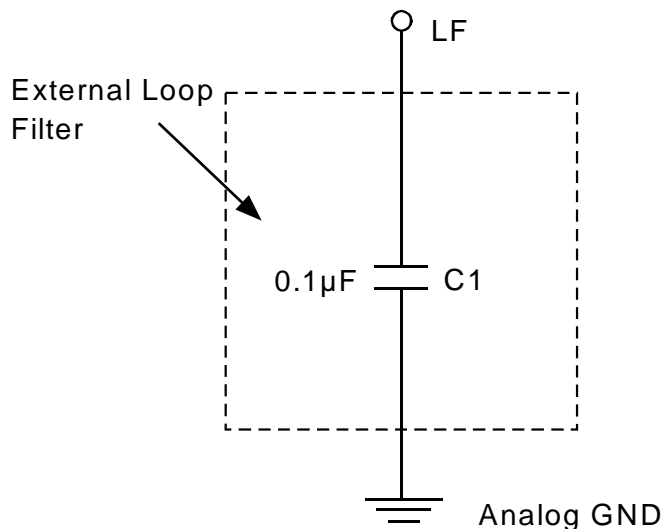

Figure 2. Loop Filter Connection
- Note 8 in "General AC Specification Notes" and Figure 2 describes this specification and its actual limits depending on the feedback connection.
- With V_{CC} fully powered-on and an output properly connected to the FEEDBACK pin. t_{LOCK} Max. is with C₁ = 0.1μF, t_{LOCK} Min. is with C₁ = 0.01μF (where C₁ is loop filter capacitor shown in Figure 2).
9. The t_{PD} spec describes how the phase offset between the SYNC input and the output connected to the FEEDBACK input varies with process, temperature, and voltage. The phase measurements were made at 1.5V. The Q/2 output was terminated at the FEEDBACK input with 100Ω to V_{CC} and 100Ω to ground. t_{PD} measurements were made with the loop filter connection shown in Figure 2 below: